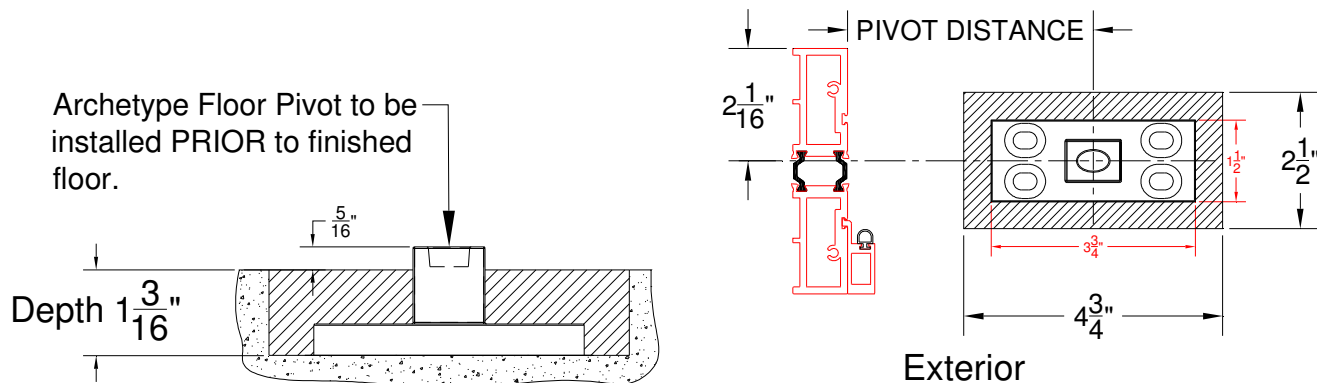

Figure D1:
- b. Top of AFP-R (red bag attached to frame) to sit 5/16" above finished floor, backfill after installation (Figure D1).
- c. The center of the AFP-R is to be 2-1/16" from the interior face of the jamb and level (Figure D1).